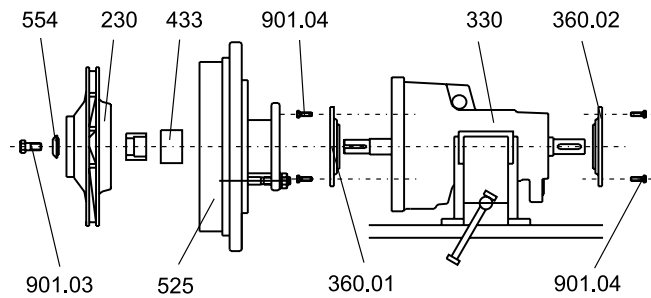

Fig. no. 12a : Dismantling the bearing unit
1. Remove the impeller by unscrewing impeller washer bolt (901.03) & washer (554)
5. Remove bearing covers (360.01/02) and gaskets by unscrewing of hex. bolt (901.04). Refer fig. no. 12a.